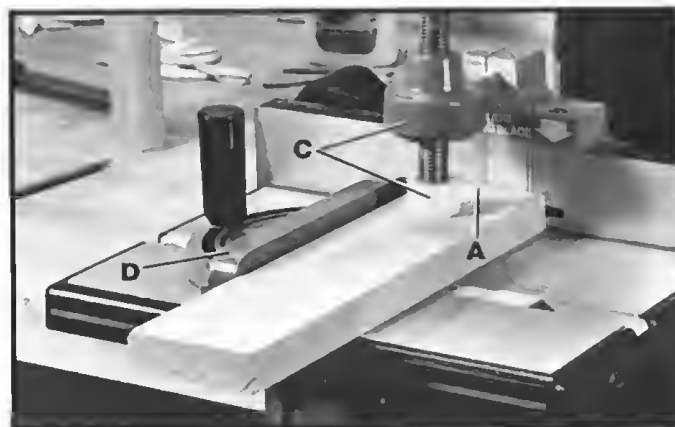

Fig. 44
2. Line up the point marked at (A) in **STEP 1** of the horizontal piece with the center line of the cutter and cut the first biscuit slot, as shown in Fig. 44. Note the dual position work clamp (C) and the adjustable stock stop (D) being used to hold and position the workpiece.